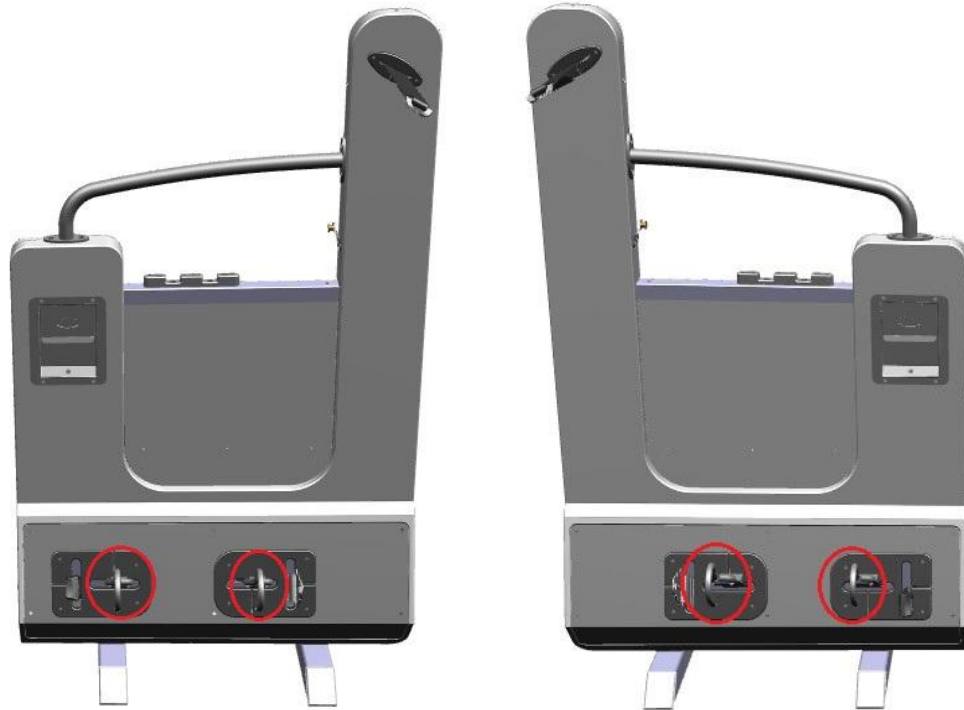

Figure 1: Streetside belt hook contractor. Curbside belt hook contractor.
1. Locate Q-Strait wheelchair belt hook contractors and pull the belt out until you see the identification tags. See figure 1.